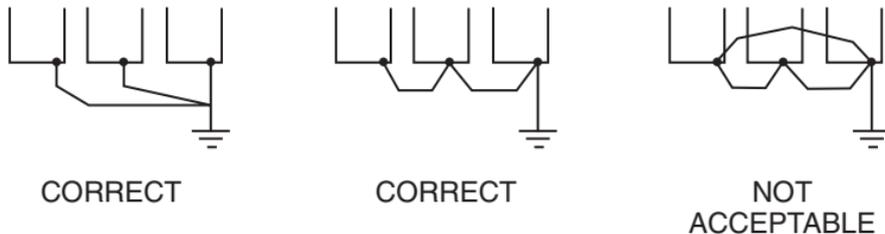

Figure 1-2. Correct Ground Connection
- Signal leads and feedback leads (PG) must be separated from control leads main circuit leads, and any other power cables, to prevent erroneous operation caused by electrical noise.
- Where several Drives are used, ground each directly to the ground point (see Figure 1-2). DO NOT FORM A LOOP WITH THE GROUND LEADS.